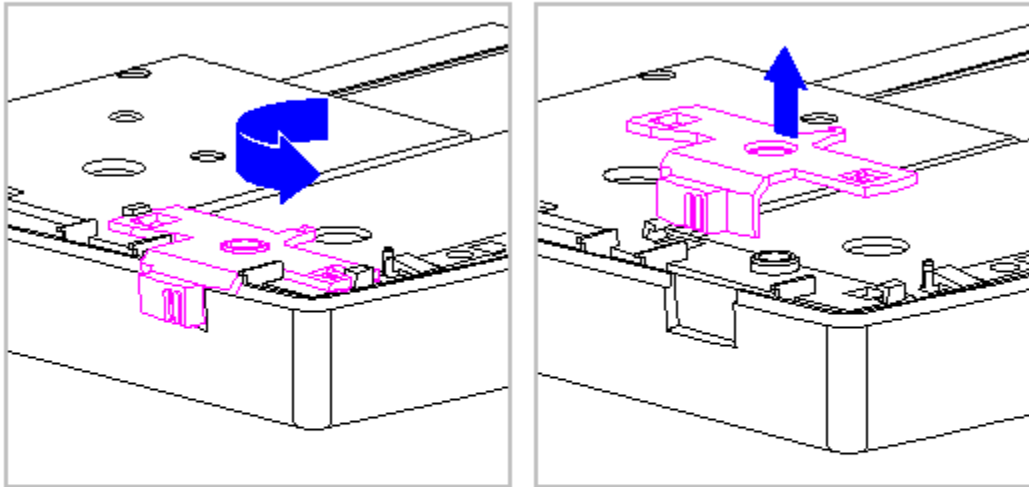

Figure 5-28. Removing the Battery Release Button
4. Rotate the battery release button counterclockwise, until it bows slightly, and lift it up to clear the hook on the computer base (Figure 5-28).